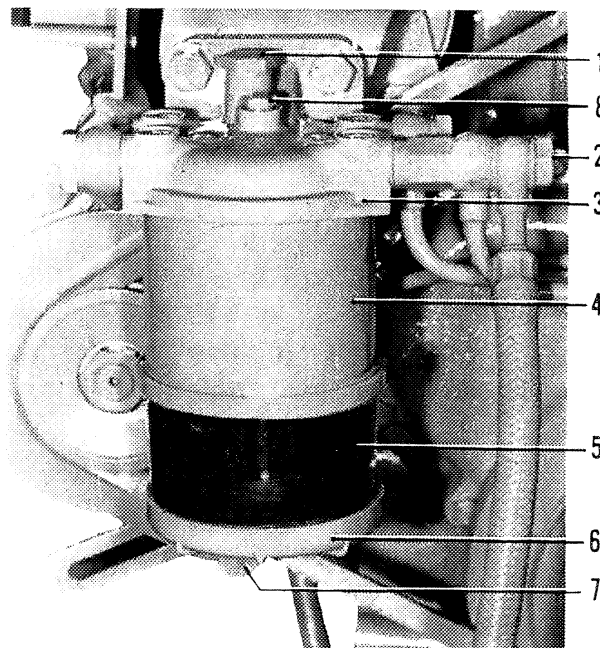
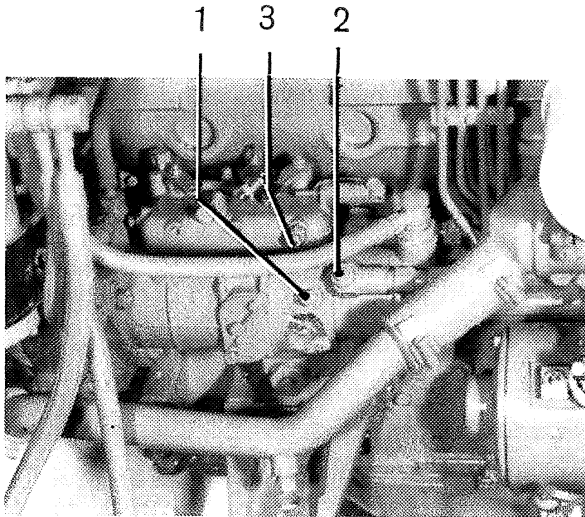

Fig. 19. Fine filter and water separator
Fig. 20. 4-cyl. engine
Each day before starting check to see if water has collected in the bottom of the container. If this is the case, the water can be drained through the drain cock (7 Fig. 19). Then vent the system (see point 9).
Thoroughly clean the entire filter housing externally. Clean the inside of the container also thoroughly (see Fig. 19). Check that the seals are not damaged. Fit a new filter. Vent the fuel system (see point 9).
Open the venting screw (1, Fig. 19) on the fine filter. Manually pump with the feed pump until fuel without air is obtained. Tighten the venting screw.
1. Replace the banjo screw (2, Fig. 19) with a special screw, part. No. 884308 (can be ordered from AB Volvo Penta dealer).
2. Open the venting screws 1, 2 and 3 according to Fig. 20 or 21 and 1, Fig. 19, also disconnect the delivery pipe connections on the injectors.
3. Manually pump with the feed pump until fuel without air is obtained at 1, Fig. 19, then tighten the venting screw. Continue pumping until fuel without air is obtained at 1, Fig. 20, or 21. Tighten the screw.
5. Move the speed control to full throttle. Turn the engine with the help of the starter motor until fuel without air is obtained at 2, Fig. 20 or 21. Tighten the screw.
7. Start the engine. When fuel flows at 3, Fig. 20 or 21, then tighten the screw securely.
⑩ Checking the coolant level